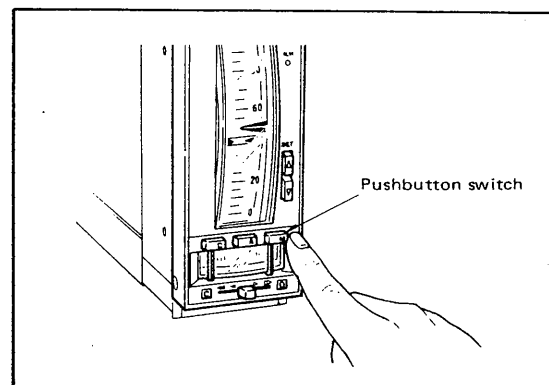

Figure 5-3-1. Selecting the Control Mode.
- (1) Manual operation by manual control lever.
- (a) Of the C/A/M mode selector switches, select M. (The lamp inside the pushbutton lights.) (Figure 5-3-1).
The control mode of the controller can be changed freely by depressing the **C A M** pushbutton switches. (Figure 5-3-1). (Note, however, that direct transfer from **M** to **C** modes is not allowed.) Transfer between modes is bumpless, and no balancing operation is needed.